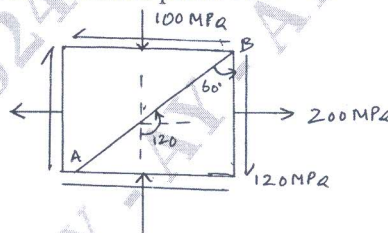

Fig.Q3(b)
- At a point in a strained material, the stresses acting are shown in Fig.Q3(b). Determine